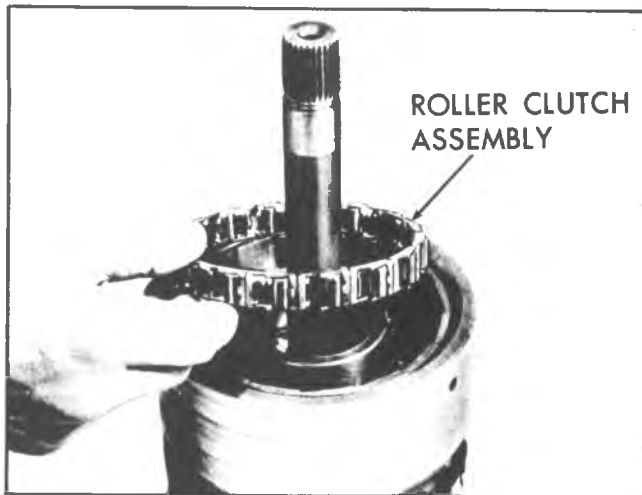

Fig. 7A-150C--Installing Roller Clutch to Reaction Carrier
18. Install roller clutch assembly (Fig. 7A-150C) into reaction carrier.